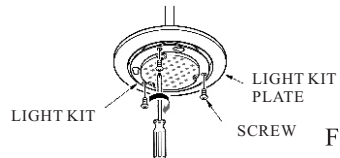

FIG.16
6. Tighten the 3 screws . (see fig.16)